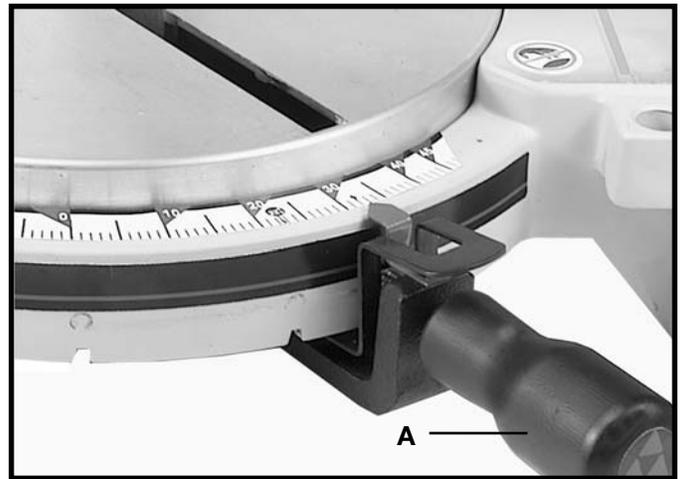

Fig. 16
**IMPORTANT: ALWAYS TIGHTEN LOCK HANDLE (A) FIG. 16, BEFORE CUTTING.**